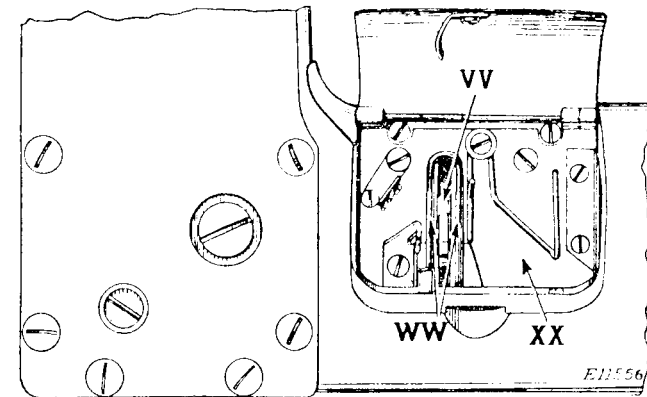
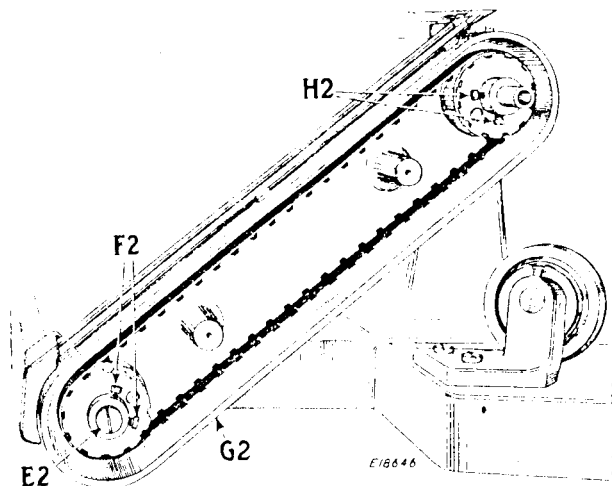

Fig. 19
Fig. 20
If the belt has been removed or disturbed, the lower shaft must be timed by loosening the two set screws and the cap screw (E2 and F2, Fig. 20) in the lower belt pulley, and turning the lower shaft until the loopers are correctly timed with the needles. Tighten the cap screw (E2) first, then the two set screws.
The straight part of the take-up (VV, Fig. 19) should touch the thread between the take-up stripper wires (WW) just as the loopers
If the upper pulley is removed or disturbed, it should be reset as follows when replacing the belt. Turn one of the set screws (H2, Fig. 20) lightly into the groove in the arm shaft, then place the belt on the pulleys and hang the belt guard cover over the shaft. Place the machine pulley on the shaft and turn one of the set screws in the belt groove lightly into the groove in the shaft. Insert and tighten the arm shaft oil reservoir to draw the pulley against the ball bearing. Tighten the two set screws (H2) in the upper pulley and also those in the belt groove of the balance wheel. The belt guard cover may be swung out of the way without removing the machine pulley, in order to reach the lower pulley for timing the lower shaft.
Remove the arm shaft connection belt, the belt pulleys and the belt guard (G2, Fig. 20). Remove the horizontal thread tube plate at the front of the bed, and loosen the set screw underneath it which holds the right ball bearing case. Remove the take-up stripper plate (XX, Fig. 19) and loosen the set screw in the take-up (VV, Fig. 19). Loosen the two set screws in the inter-